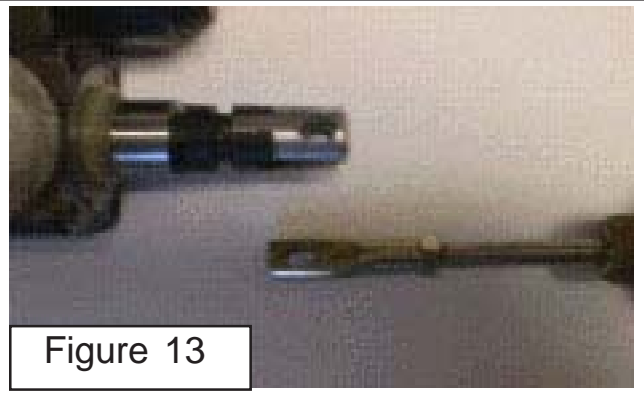

Figure 13
4. Turn the cable eye Jam nut on the threaded cable end until it bottoms. Thread the Cable Eye onto the cable end until it bottoms on the cable. Turn the eye to align with the spool end and secure the jam nut against the cable eye. (See Figure 13).
7. **Connecting Harness Wires.** There are 4 wires that must be connected inside Tractor. 1. Red Wire (power supply), 1 Black Wire (Ground) and 2 Brown Wires (Neutral Safety Switch). These will have to be spliced into Tractor circuits. (See Figure 13).